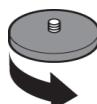

Fig.43
- Manually remove side or central filters or by unscrewing the ferrule located on the top rounded filter inside the tank. (Fig.43)